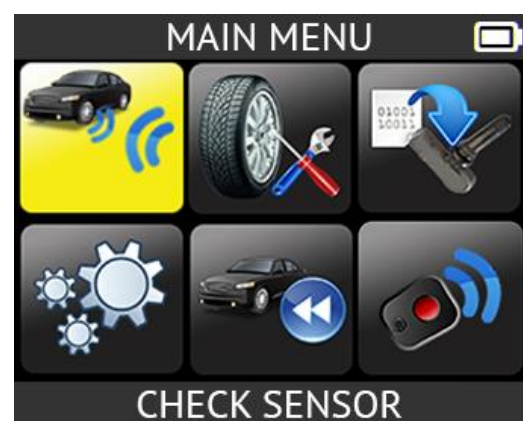

Fig.2.
- The **MAIN MENU** will then be displayed as Fig. 2.